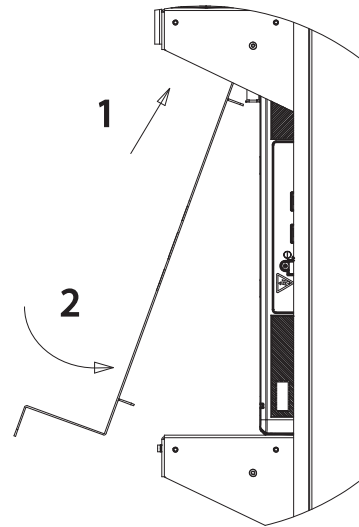

Figure 4-19. Installing Module Spacer (2 of 3)
2. See Figure 4-19. Slide the spacer up between the brackets and push the bottom of the spacer in towards the enclosure.